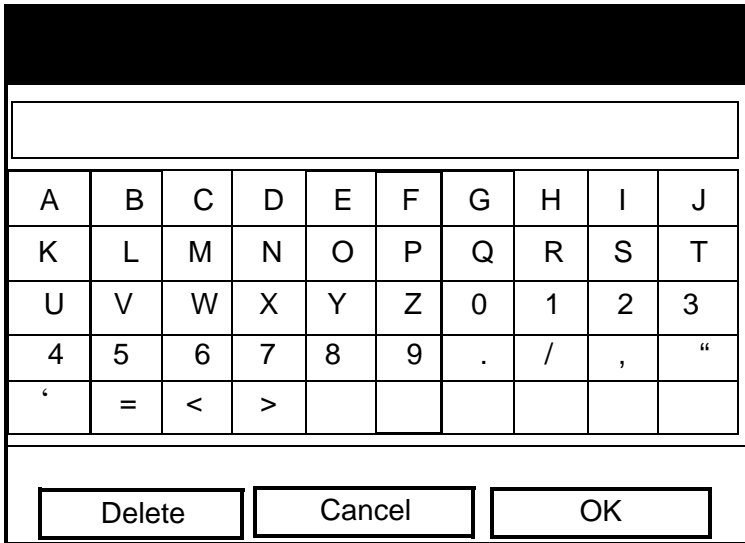

Figure 49: Text Creation Window
2. Press [ENTER] to select “Message,” which opens the text creation window, shown in Figure 49 on page 82.